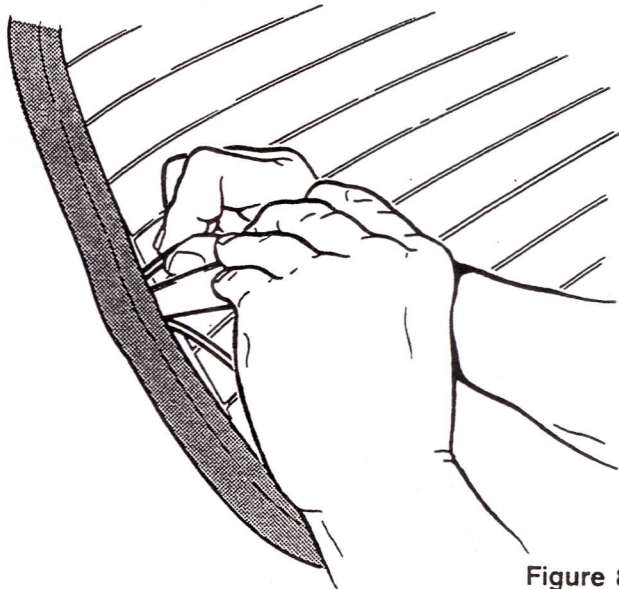

Figure 8
5. Feed the HRW wires through the body into the boot area. See Figure 8